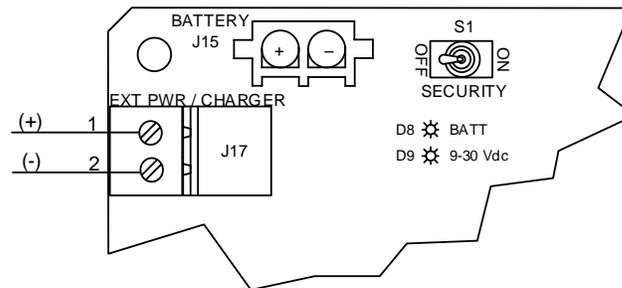

Figure 91: Battery charger and battery connections
2. Check the battery cable. It must make a good, secure electrical connection with the μ FLOG^{G5} board BATT connector, J15 (Figure 91).
1. Check the battery cable. It must make a good, secure electrical connection with the μ FLOG^{G5} board BATT connector, J15 (Figure 91).
9.2.4 Troubleshooting an Analog to Digital Failure alarm (AD)